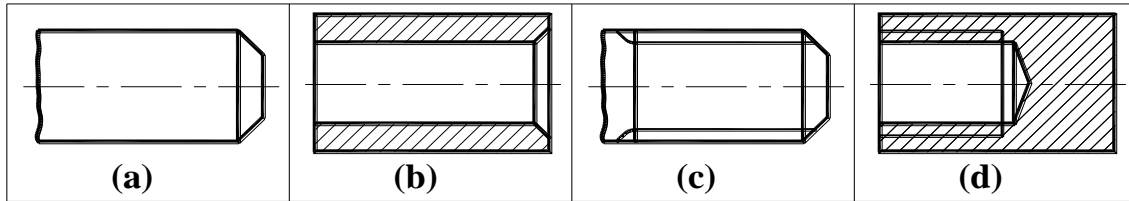

FIGURE T4.5
5. 5. DIMENSION THE CHAMFERS SHOWN IN *FIGURE T4.5 (A) & (B)*,
EXTERNAL THREADS SHOWN IN *FIGURE T4.5(C)*, INTERNAL THREADS
SHOWN IN *FIGURE T4.5 (D)*.